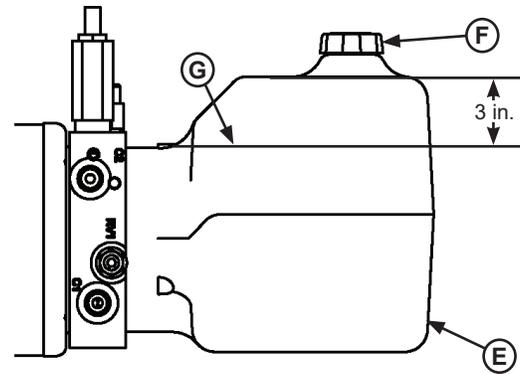

Figure 12
- Check reservoir fluid level (G, see Figure 12):
3. Remove breather cap (F).
4. Measure fluid level. The fluid level should be approximately 3 in. (76.5 mm) from top of reservoir (E) with platform at the below-dock position.